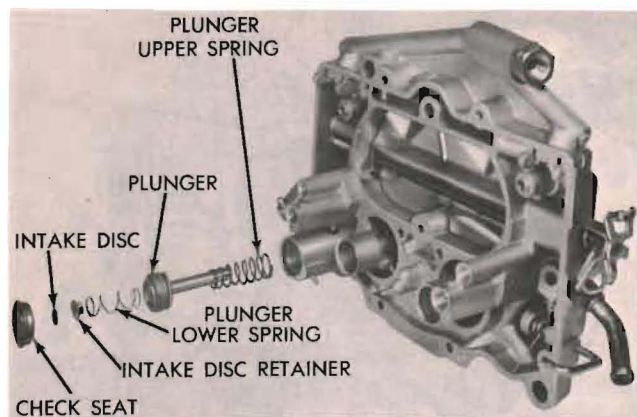
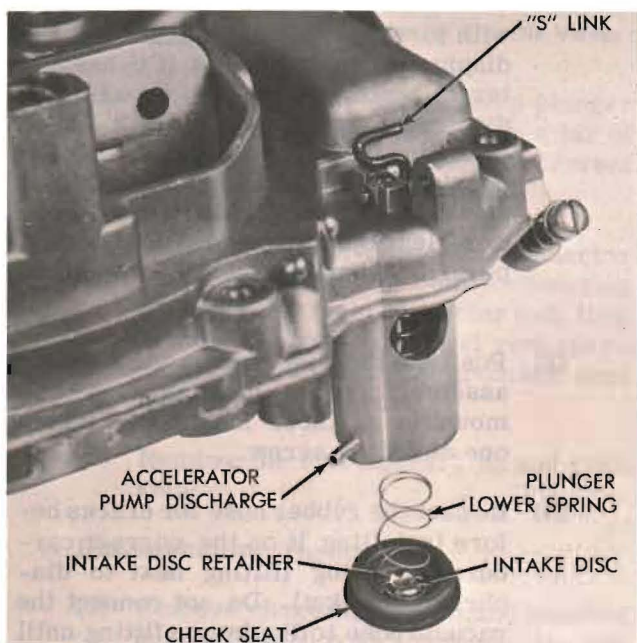

Figure 13. Accelerator Pump Assembly — Disassembled View
Figure 14. Installing Pump Check Seat
- (1) Install both secondary jets.
- (2) Install both primary jets.
- (3) Position the accelerator upper (heavy) on pump plunger with large diameter up. (See figure 13.) Install spring and plunger in pump cylinder bore, compressing the spring until plunger rod extends through the bowl cover, then install the pump "S" link to retain the assembly in bowl cover. (See figure 14.)
- (4) Position intake check seat with flange down. Install the intake disc (red) and intake disc retainer in the check seat. Make sure the disc is centered in retainer and seat. Install the plunger lower spring (light) in seat of disc retainer. (See figure 13.)
- (5) Position the accelerator pump bore over the assembly, then apply firm hand pressure to bowl cover to seat the intake check seat in the pump bore. (See figure 14.)
- (6) Install accelerator pump passage tube (plastic). Make sure the tube is not kinked.
- (7) Pour clean gasoline into the main body,